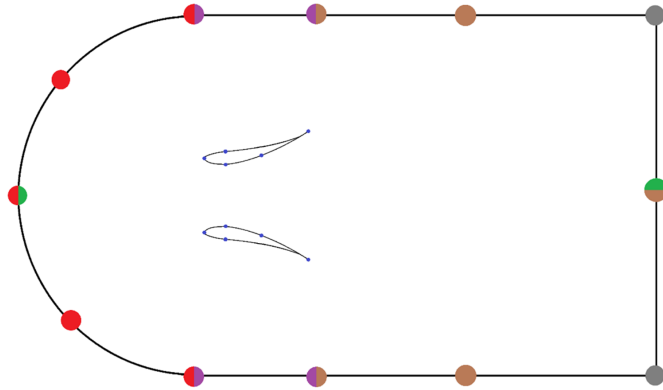

Figure 2: The computational domain including the main points with colors to define each one.
- Add at least 3 points (red ones in figure 2) at any quarter circle.
- Add at least 6 points (blue ones in figure 2) at the foil body.
- Add points (green ones in figure 2) along any symmetric lines.
- Add points (purple ones in figure 2) that bound the bodies on the domain edges.
- Add points (brown ones in figure 2) on long straight lines.
- Add points (Grey ones in figure 2) on corners.